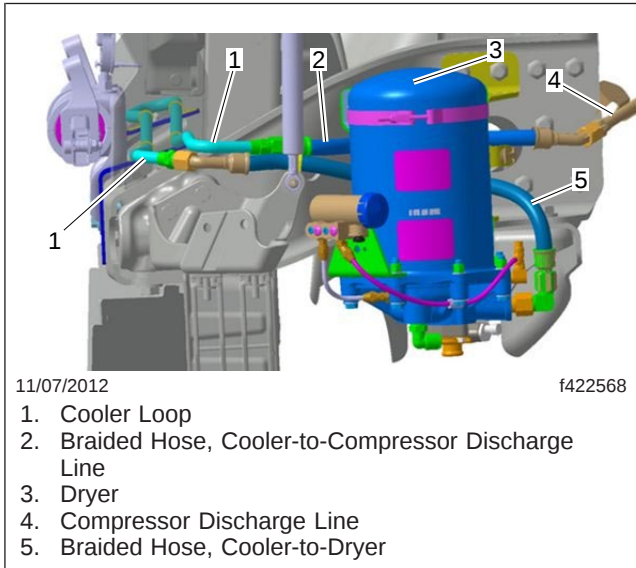
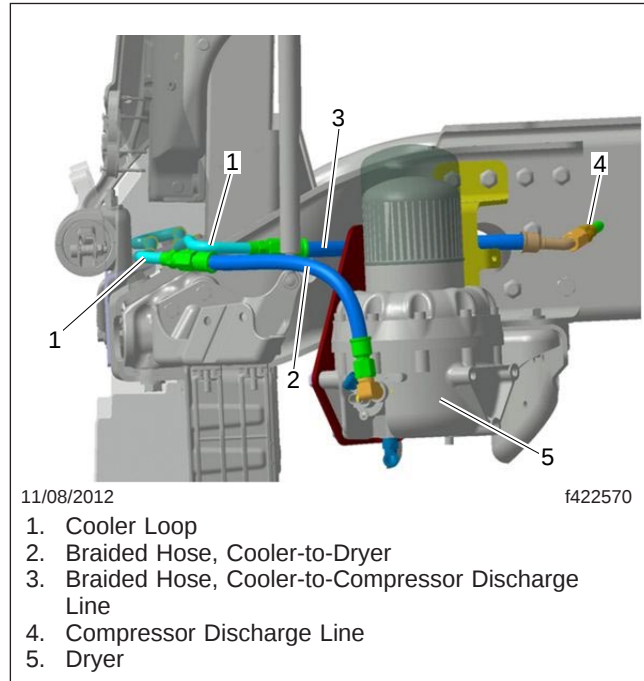

Fig. 2, Braided Line Installation, AD-9/AD-IP Dryers
Fig. 3, Braided Line Installation, Wabco 1200 Plus Dryer
12. Install the new braided line from the loop to the frame rail connection. See Fig. 2 for AD-9/AD-IP Dryers, or Fig. 3 for Wabco 1200 Plus Dryer.
13. Install the new braided line from the loop to the dryer. See Fig. 2.